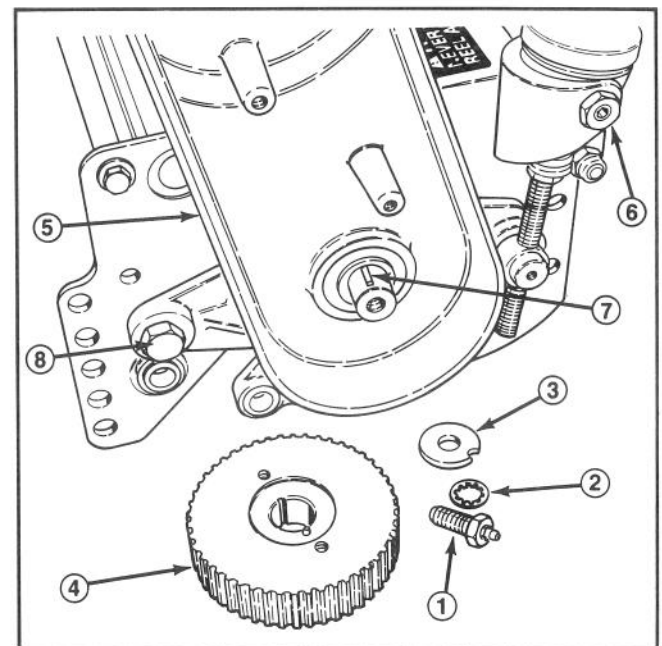

Figure 29
8. Remove the adjustment handle assembly and cone nut, belleville washer and shoulder bolt securing the housing to the sideplate (Fig. 29). Remove the housing.